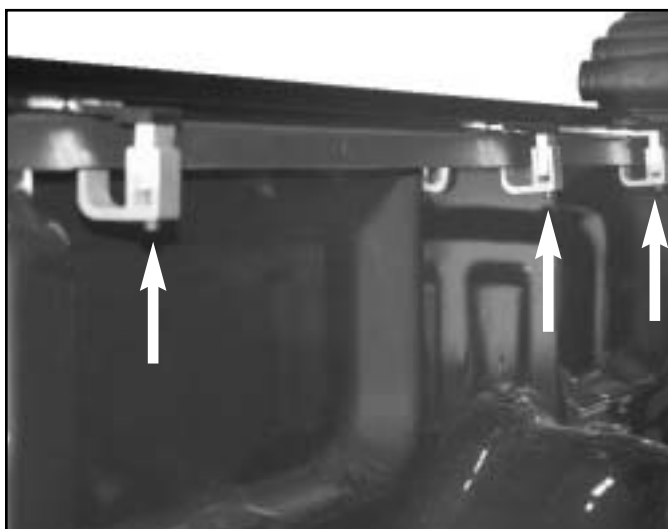

Figure S-88
- 25. Install the six (6) lower clamp jaws and clamp arm fastener screws. See figure S-88.